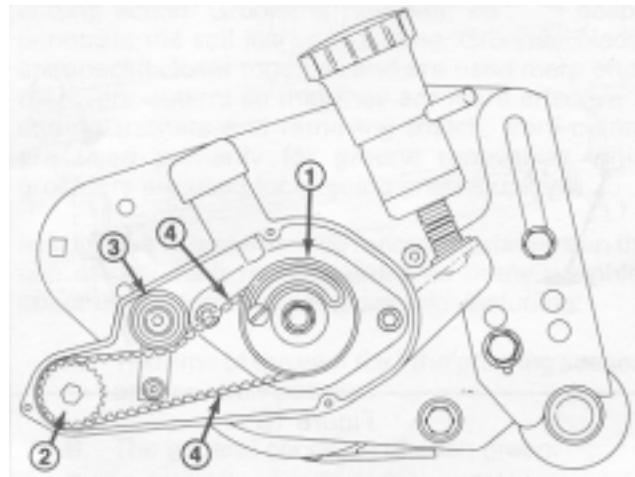

Figure 15
- D. Fit the toothed belt over the drive pulley (removed in step 13B). Hold the belt in position and slide the drive pulley in place on the clutch adapter while positioning the belt around the driven pulley and under the backside idler (Fig. 15).
- F. Apply 5–10 lbs. of force on the belt midway between the pulleys to check tension on the drive belt. There should be 1/4 inch belt deflection. If deflection is not 1/4 inch, loosen the backside idler pulley pivot screw (Fig. 15). Pivot the idler to achieve proper tension and torque the allen head screw to 7–10 ft-lb.